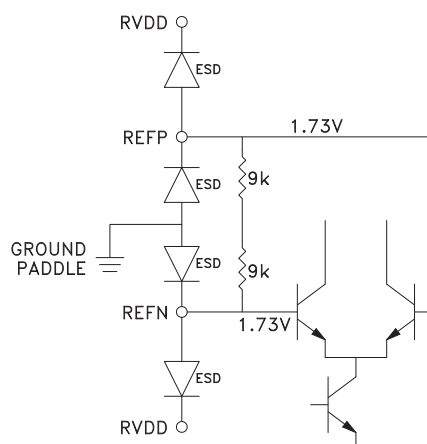

Figure 8. Reference Path Input Stage
The reference input provides the path from the external reference source to the phase detector. The input stage of the reference path is shown in Figure 8. HMC700LP4(E) is a DC coupled, common emitter differential NPN buffer. Input pins have 1.8V bias on them. Expected input is full swing 3V CMOS. Slightly degraded phase noise performance may result with quasi sine or sine inputs. Input reference should have a noise floor better than -155 dBc/Hz at 50MHz to avoid degradation of the input reference path. The input reference path phase noise floor is approximately equivalent to -155 dBc/Hz. This input should be well isolated from the VCO for best spurious performance in fractional mode.